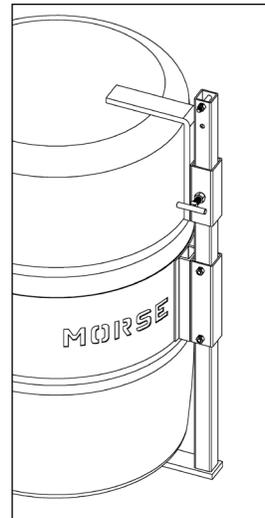

Figure 2.2
- The **Bracket Assembly** (Kit # 4556-P) is **required** to handle a RIMLESS plastic or fiber drum - a drum without a top rim (see figure 2.2). You can use the Bracket Assembly with a 55-gallon (210 liter) plastic, steel or fiber drum. The brace at top and bottom of the drum prevent it from slipping lengthways through the drum holder. It adjusts for a drum 31” to 39” (79 to 99 cm) tall.